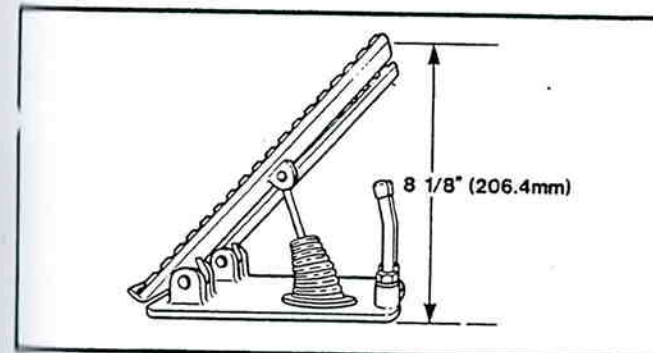

Figure 9-5. Pedal Travel Adjustment.
2. Shorten the accelerator bell crank rod until the pedal reaches 8 1/8" (206.4 mm). Measure from the floor to the underside tip of pedal. See figure 9-5.
**NOTE:** The pedal stop must be installed with the bend as shown in figure 9-5. The tip of the stop must also line up with the recess on the underside of the pedal.